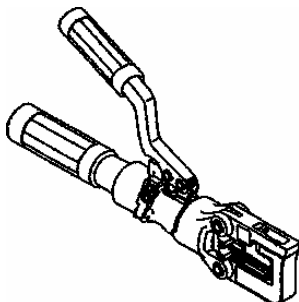
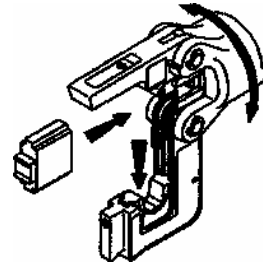

Figure 38. HD51 Crimping Tool
Figure 39. HD51 Crimping Tool Die Insertion
99. **DESCRIPTION.** The hydraulic tool (Figure 38) is operated by pumping both handles. It can be operated with one hand by laying the stationary handle on a flat surface. It has a force of 5.5 tons and weighs 4.6 Lbs. The tool has an audible "Click" to prevent over-compression. It also has a 180° rotating head for easy accessibility in confined working areas. An example of tool in use is depicted in Figure 39.